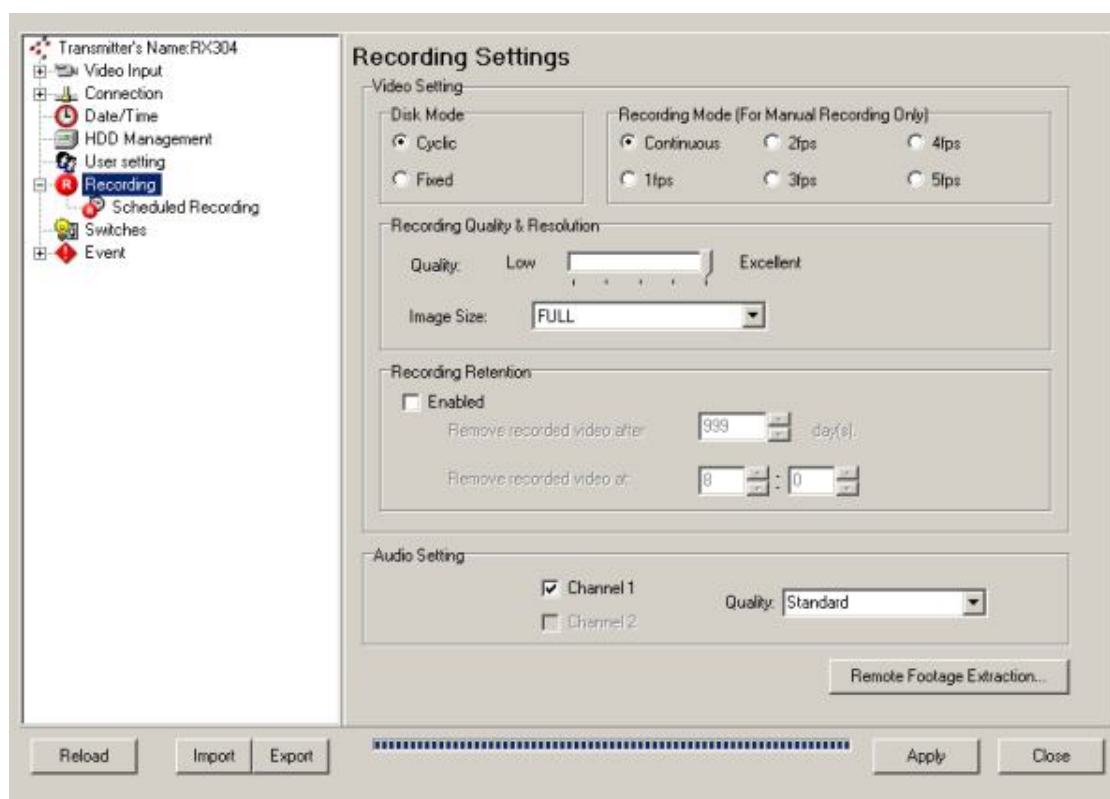

Fig 6.1a
Step 1 : Click [**Transmitter Settings**]  icon on the {Main Panel}. Enter the administrator password to pop up {Transmitter Setup} panel. Click [**Recording**] option as shown on **Fig 6.1a**.
Step 1: Click on **[Footage Extraction]** button (Fig 6.1a)